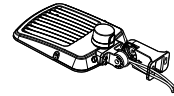

Figure 7
- Step 1: Remove the bracket mounting screws on the fixture and run the wires through the bracket. (Figure 7)